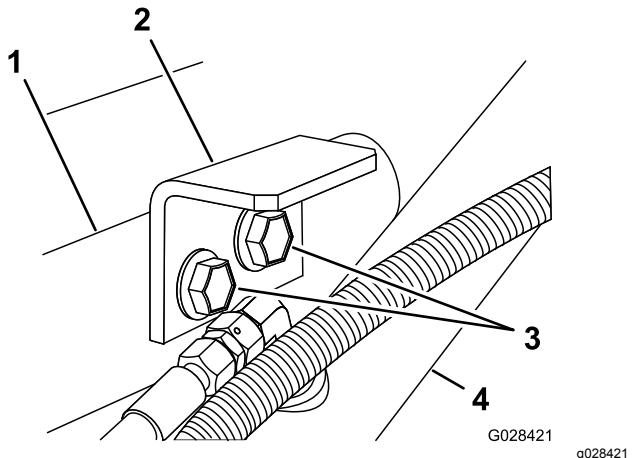

Figure 7
3. Assemble the hold-down brackets to support bracket and frame the using the 2 flanged-head bolt and flange locknut removed in step 1 (Figure 7).